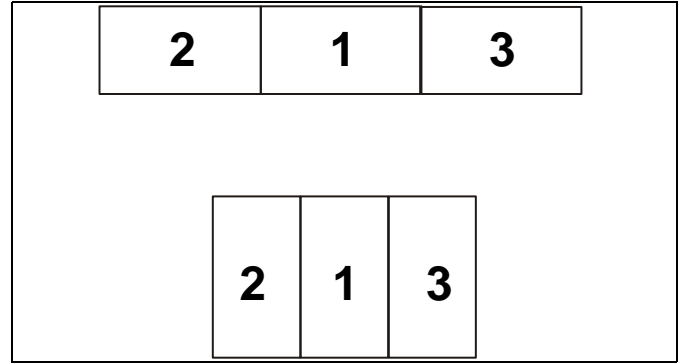

Figure 13
- The center display **MUST** be installed first and centered between two columns (See Figure 13)